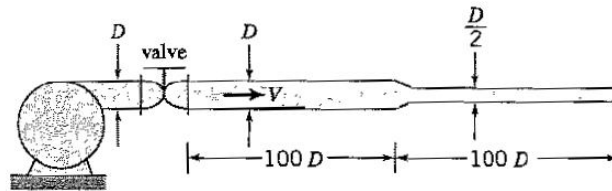

Figure P8.18
8.18 A pump is capable of delivering a gauge pressure p_1 , when pumping water of density ρ . At the exit of the pump, where the diameter of the exit pipe is D and the velocity is V , there is a valve with a loss coefficient of 0.6, as shown in Figure P8.18. At a distance $100D$ downstream, the diameter of the pipe smoothly reduces to $D/2$. At a further distance $100D$